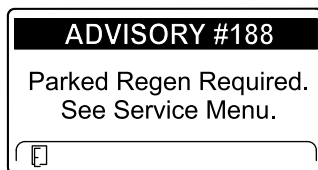

Figure 19
- Parked regeneration required ADVISORY #188 (Figure 19)